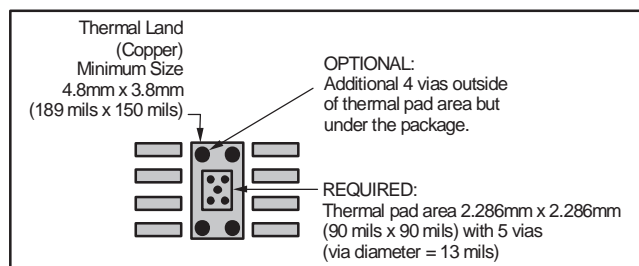

Figure 10. 8-Pin PowerPAD PCB Etch and Via Pattern
2. Prepare the PCB with a top-side etch pattern, as shown in Figure 10. The exact land design may vary based on the specific assembly process requirements. There should be etch for the leads as well as etch for the thermal land.
3. Place the recommended number of plated-through holes (or thermal vias) in the area of the thermal pad. These holes should be 13 mils in diameter. They are kept small so that solder wicking through the holes is not a problem during reflow. The minimum recommended number of holes for the SO-8 PowerPAD package is 5, as shown in Figure 10.
4. It is recommended, but not required, to place a small number of additional holes under the package and outside the thermal pad area. These holes provide additional heat paths between the copper thermal land and the ground plane. They may be larger because they are not in the area to be soldered, so wicking is not a problem. This is illustrated in Figure 10.